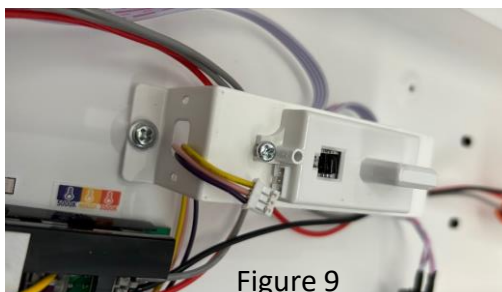
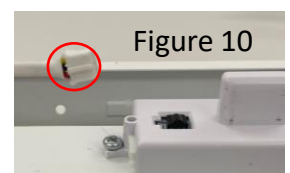

Figure 9
Figure 10
- C. Align the holes at the ends of the microwave sensor (63907) with the holes in the mounting plate. Make certain the end of the sensor with the wiring socket faces the LED driver. Secure the sensor in place through the pre-drilled holes using the supplied screws - do not overtighten (fig. 9). Connect the wiring harness into the sensor socket - Note that the notch in the harness plug (fig. 10) must face down towards the mounting plate.